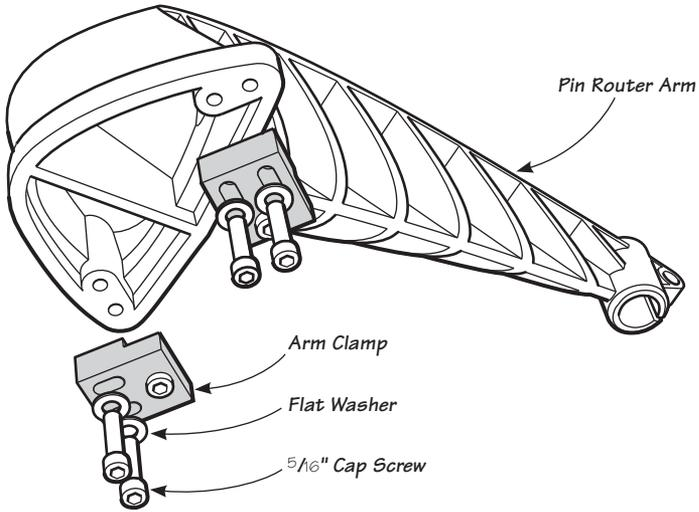

Figure 3: Assembly of the arm clamps to the pin router arm.
- Loosely attach both arm clamps to the base of the pin router arm (**Figure 3**) using the included cap screws and washers. Keep the cap screws loose enough to allow movement of the arm clamps.